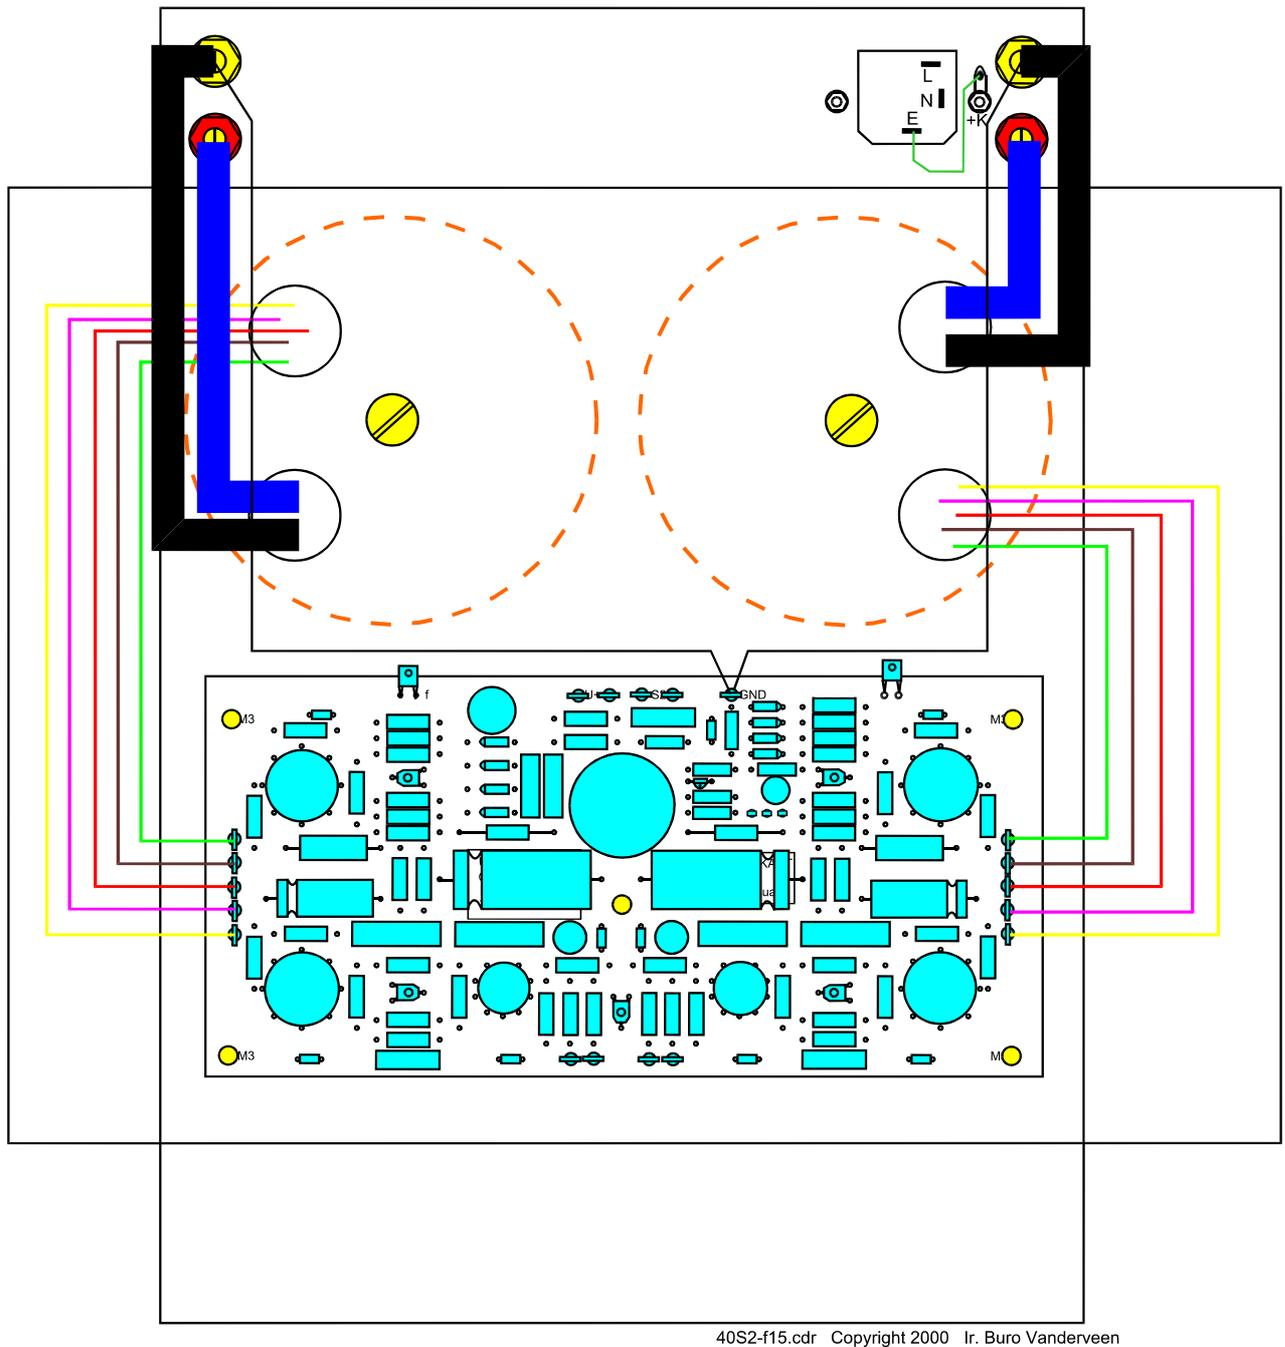

Figure 15
3. The primary leads of each output transformer have the colour codes shown in figure 15. DO NOT CUT or SHORTEN these leads, but solder them to their terminals as shown in figure 15. It is important that you do not mistake one colour for another.
7. Take one piece of 20cm long plus one piece of 30cm long black ground wire, strip the insulation back 1.5cm. Wind the bared end of the 30cm long lead around the twisted black wires from the output transformer on the left in figure 15. Repeat with the 20cm long lead with the other output transformer. Now solder the black wires complete with their extra ground wire to the white speaker terminals. Again use a 100 Watt solder-iron.
8. Bring the black ground wires to the GND terminal at the upper edge of the PCB and solder both to the terminal. Route these two ground wires along the sides of the cabinet, out of sight, as drawn in black in figure 15.
9. Next, mount the mains input terminal to the rear of the cabinet using one M3x8 and one M3x10 countersunk screw with nuts, spring-washers and the solder tag under the right nut (see figure 15). Push the mains input connector in from the outside of the cabinet. Then push the right screw (the longest) from the outside into its hole, followed by a spring washer, next the solder tag, then a second spring washer and finally the M3 nut. Firmly tighten this nut and screw as this connection has to be very solid and reliable. This because it provides the cabinet to earth contact, guaranteeing that the metal cabinet remains connected to mains ground. For electrical safety a 100 % reliable contact is necessary. Be very careful here and don't forget the spring washers, they will ensure a firm corrosion free connection.
10. The upper terminal of the mains input connector **marked "E"** is the earth terminal. Take a 10cm length of the green/yellow striped wire, strip the insulation back 1cm and insert the stripped end through the little hole in the above mentioned (E) earth-terminal. Bend it so it lies flat against the terminal. Now solder the wire into place, slip a 2cm length of the widest heatshrink over the wire and shrink it over the solder connection; next slip a 2cm length of the narrow heatshrink over the wire and solder the other end of the wire to the solder tag under the right screw.